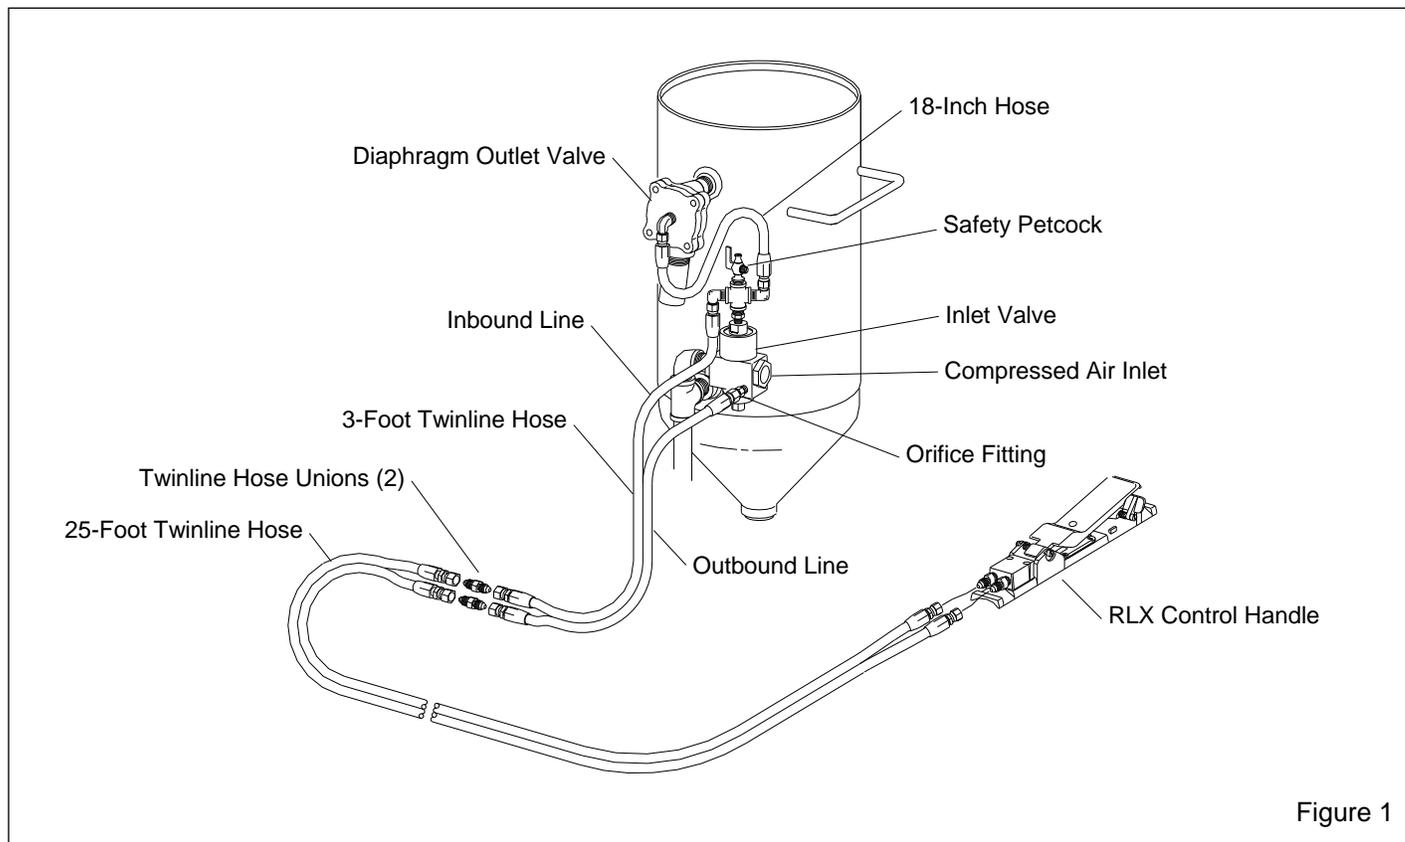

Figure 1
1.3.3 The components of the remote control system are shown in Figure 1. They include the inlet valve, diaphragm outlet valve, RLX control handle, 25-ft. and 3-ft. long twinline control hoses, 2 control hose unions, and an 18-in. long interconnecting hose.
**1.4.1** Clemco TLR Remote Controls operate pneumatically on return air (Refer to Figure 1). If the control handle lever (the main activator of the system) is in the up (no blast) position, one stream of air travels down the outbound side of the twinline and escapes through an opening located under the lever. The normally-closed inlet valve remains closed and the normally-open outlet valve remains open. When the control handle lever is pressed, a rubber button seals the opening, and air in the outbound line returns through the inbound line to open the inlet valve and close the outlet valve. This action pressurizes the blast machine and begins the blasting process. Releasing the handle exhausts the control air, closing the inlet valve, and opening the outlet valve to depressurize the blast machine and stop the blasting.
**2.2 Field-Installed Controls:** Refer to Figure 1.
2.3.1 Connect a compressed air hose coupling to the inlet valve (or optional air filter) that is compatible with the air supply hose. Refer to Figure 1.
2.4.7 Attach the 3-ft. twinline control hose to the inlet valve as shown in Figure 1; One side of the hose connects to the unused upper elbow, the other to the orifice fitting.